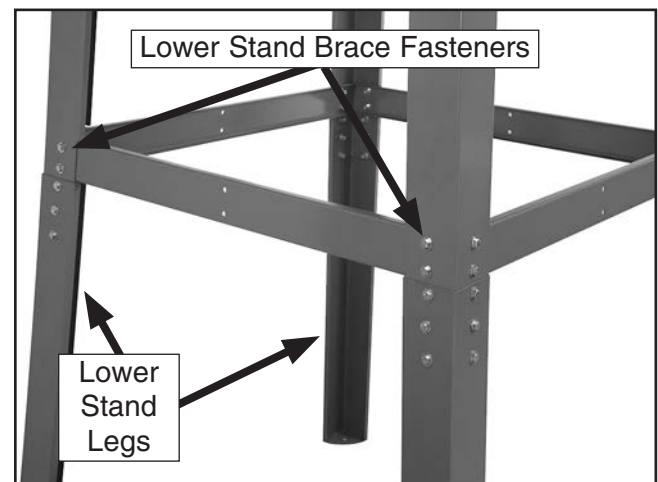

Figure 30. Lower stand legs attached to the upper stand assembly.
24. To allow the mounting holes of the lower stand legs to align properly, slightly loosen the 16 fasteners that connect the lower stand braces to the upper stand legs (see **Figure 30**).